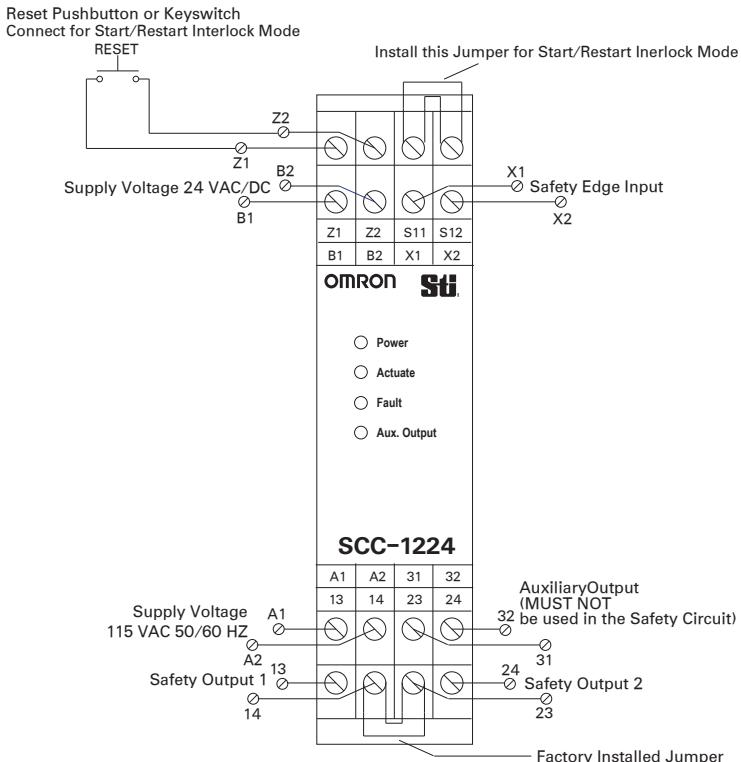

Figure 5-2 Start/Restart Interlock Connection Diagram
There are four LED lamps on the SCC-1224 and SCC-1224ND Safety Edge Controller. Please see *Figure 5-2* for the physical location of each indicator. These LEDs are identified on the controller.
By placing a jumper between terminals S11 and S12, (See *Figure 5-2*) the unit is configured to Start/ Restart Interlock mode. When the unit is configured to the Start/Restart Interlock mode, a reset push button or key-switch must be wired to terminals Z1 and Z2. When power is applied to the controller, the controller will initiate a start up self check, when the self check is complete the relays will remain in the open state until a reset pushbutton or key-switch is closed across terminals Z1 and Z2. When the reset is closed, the contacts will transition to the closed state. Pressing the Safety Edge will cause the safety relays in the controller to transfer to the open state. When pressure is removed from the Safety Edge, the safety relays **will not** transfer back to the closed state until the pushbutton or key-switch is operated (Reset).
With the jumper wire is installed across terminals 14 and 23 (factory default) both safety relays are used in the safety output circuit only one machine primary control element (MPCE) is used. (*See Figure 5-2 Start/Restart Interlock Connection Diagram on page 12*) external fusing (not to exceed 4.0 amps) is required to protect internal safety relay contacts.
- With the jumper wire removed from terminals 14 and 23, each MPCE is individually wired. (*See Figure 5-2 Start/Restart Interlock Connection Diagram on page 12*) external fusing (not to exceed 4.0 amps) is required to protect internal safety relay contacts.